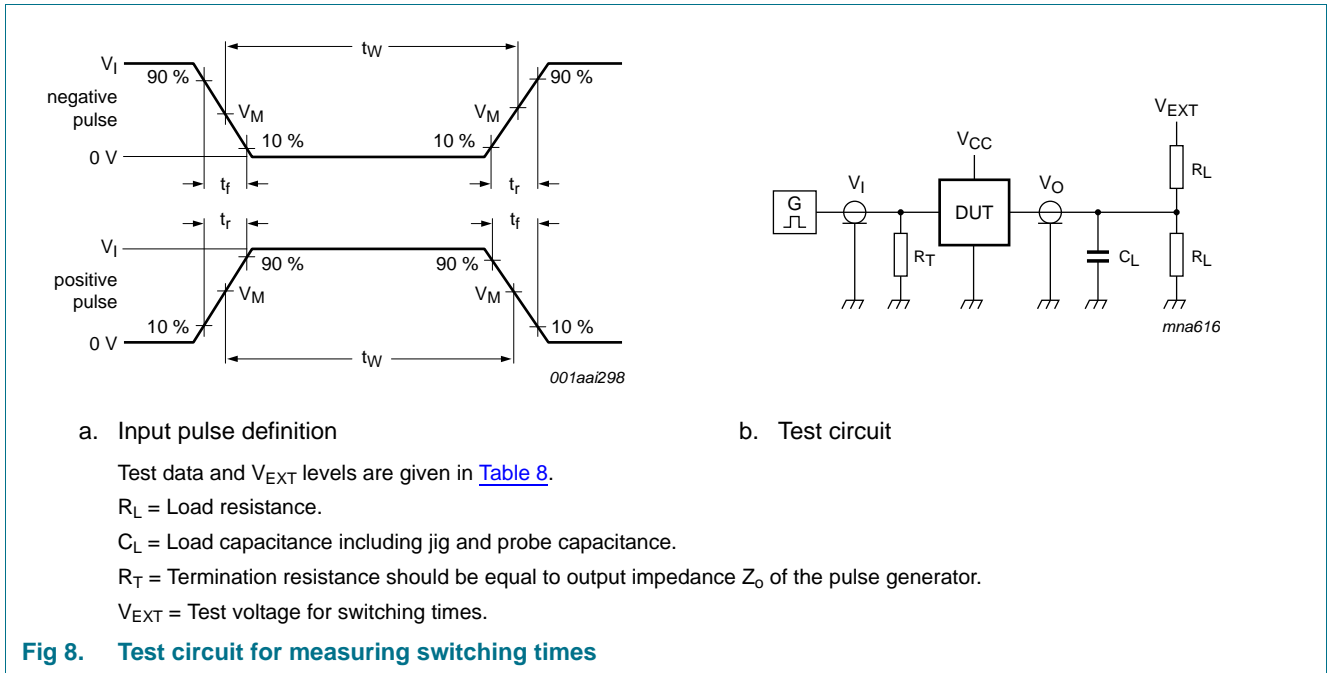

Fig 8. Test circuit for measuring switching times
*GND = 0 V; for test circuit, see Figure 8.*